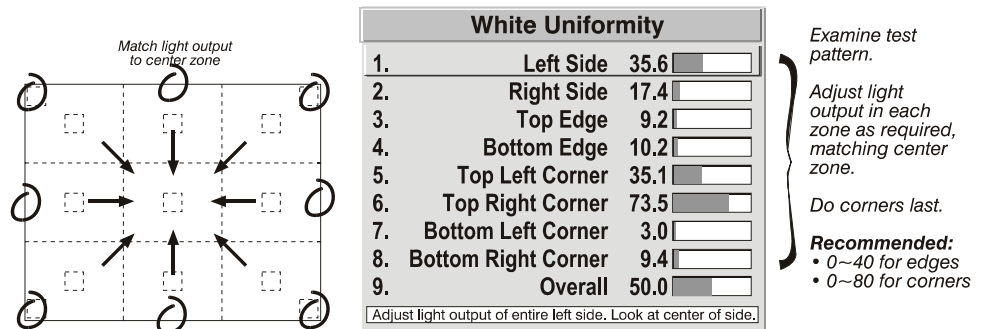

Figure 3.17. Match Zones to Center Light Output
- 2b) Return to the *White Field Uniformity* menu. Beginning with the screen that exhibits the most obvious color shift(s), for each edge that exhibits a noticeably different color temperature from the center, select the corresponding *Uniformity* adjustment menu — *Left, Right, Top* or *Bottom*. For example, if any part of the left side is too blue, too red or too green, go to the *Left Uniformity* menu and adjust the colors (i.e., change their light output) until all portions of the left side closely match the center color temperature. Adjust an edge first (focusing on its center), and then adjust its corners. See Figure 3.17.
3a) For each screen, compare the light output of each *edge* and *corner* to that of the *center*. If any of the areas differ, use the *White Uniformity* menu to match edges and corners to the center as described below (see Figure 3.17). Begin with the screen exhibiting the most obvious variations in light output.